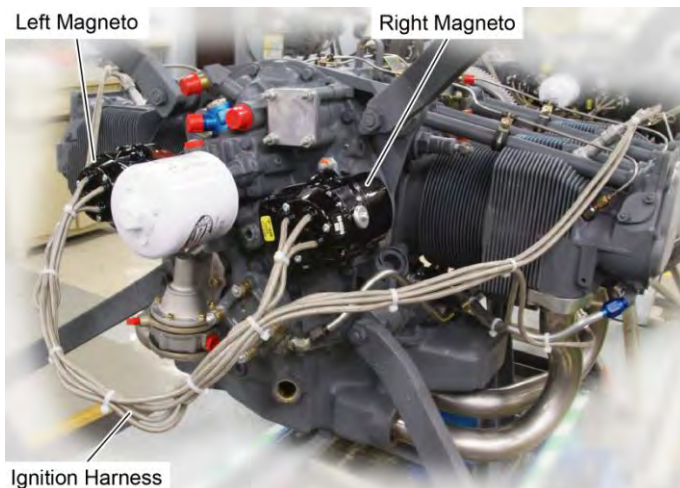

Figure 1
A. Remove the ignition harness (Figure 1) from the engine harness.
- (1) Disconnect the clamps that attach the ignition harness to the engine.
- (2) Remove the screws which attach the harness cap to the magneto.
- (3) Disconnect the ignition leads from the spark plugs.
- (4) Remove the ignition harness.
A. Attach the left ignition harness to the left magneto (Figure 1).